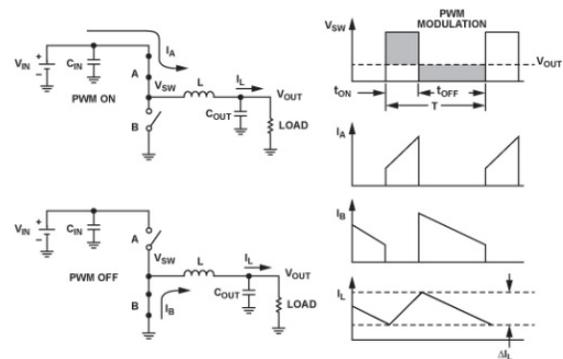

Figure 3. Basic Buck Arrangement3
A buck regulator simply chops up an input voltage, passes it through an LC filter, and gives a stable output. To do this, the buck employs two active elements and two passive elements. The active elements are a switch from the input to the inductor (labeled A in Figure 3) and a switch (or diode) from GND to the inductor (labeled B in Figure 3). The passive elements are the inductor (L) and the output capacitor ( $C_{OUT}$ ). These form an LC filter, which reduces the ripple created by the active elements. Their arrangement is shown in Figure 3.